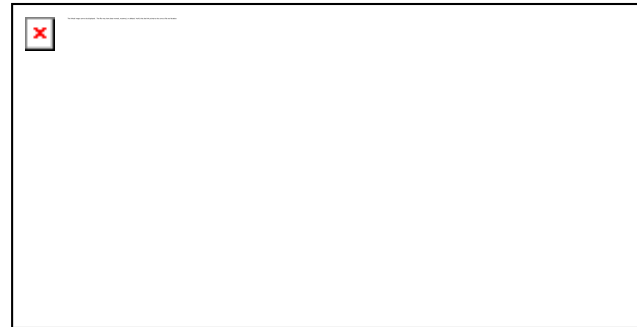

Figure 1. MIB2 Software Version in MMI with new UI.
1. To save time, always verify the customer's MMI requires the software update before proceeding. In the MMI, go to *Menu >> Settings >> Left drawer option >> Version Information* (Figure 1). This applies to models using the new MIB2 user interface. The C7 PI uses the old user interface similar to MMI3G+ along with the newer MIB2 hardware. The software version for the older user interface is found under *Menu >> Setup MMI >> Version Information*.